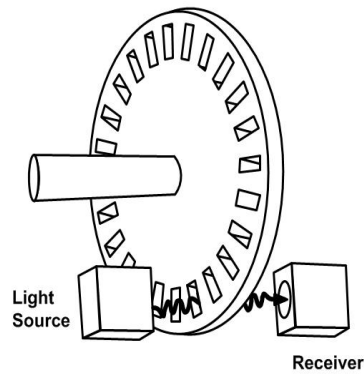

Fig.3
- (b) The wheel rotation of an AGV is sensed using an optical shaft encoder. The shaft encoder has 24 slots as shown in **Fig.3**.